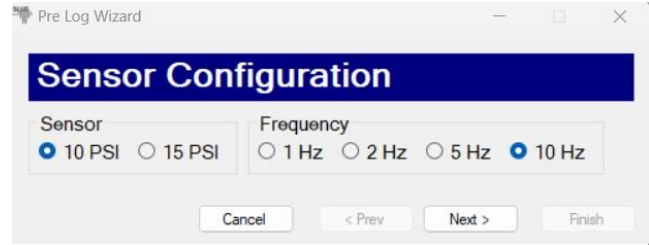

Figure 4: Sensor Configuration for use with the test load.
3. Section 6.0 of Bulletin No. MK3195 describes three menus that are encountered while running the slug test software. The first menu allows the user to select sensor style and sampling rate. Select the 10 PSI Sensor option as in Figure 4, and click on the "Next" button when finished.